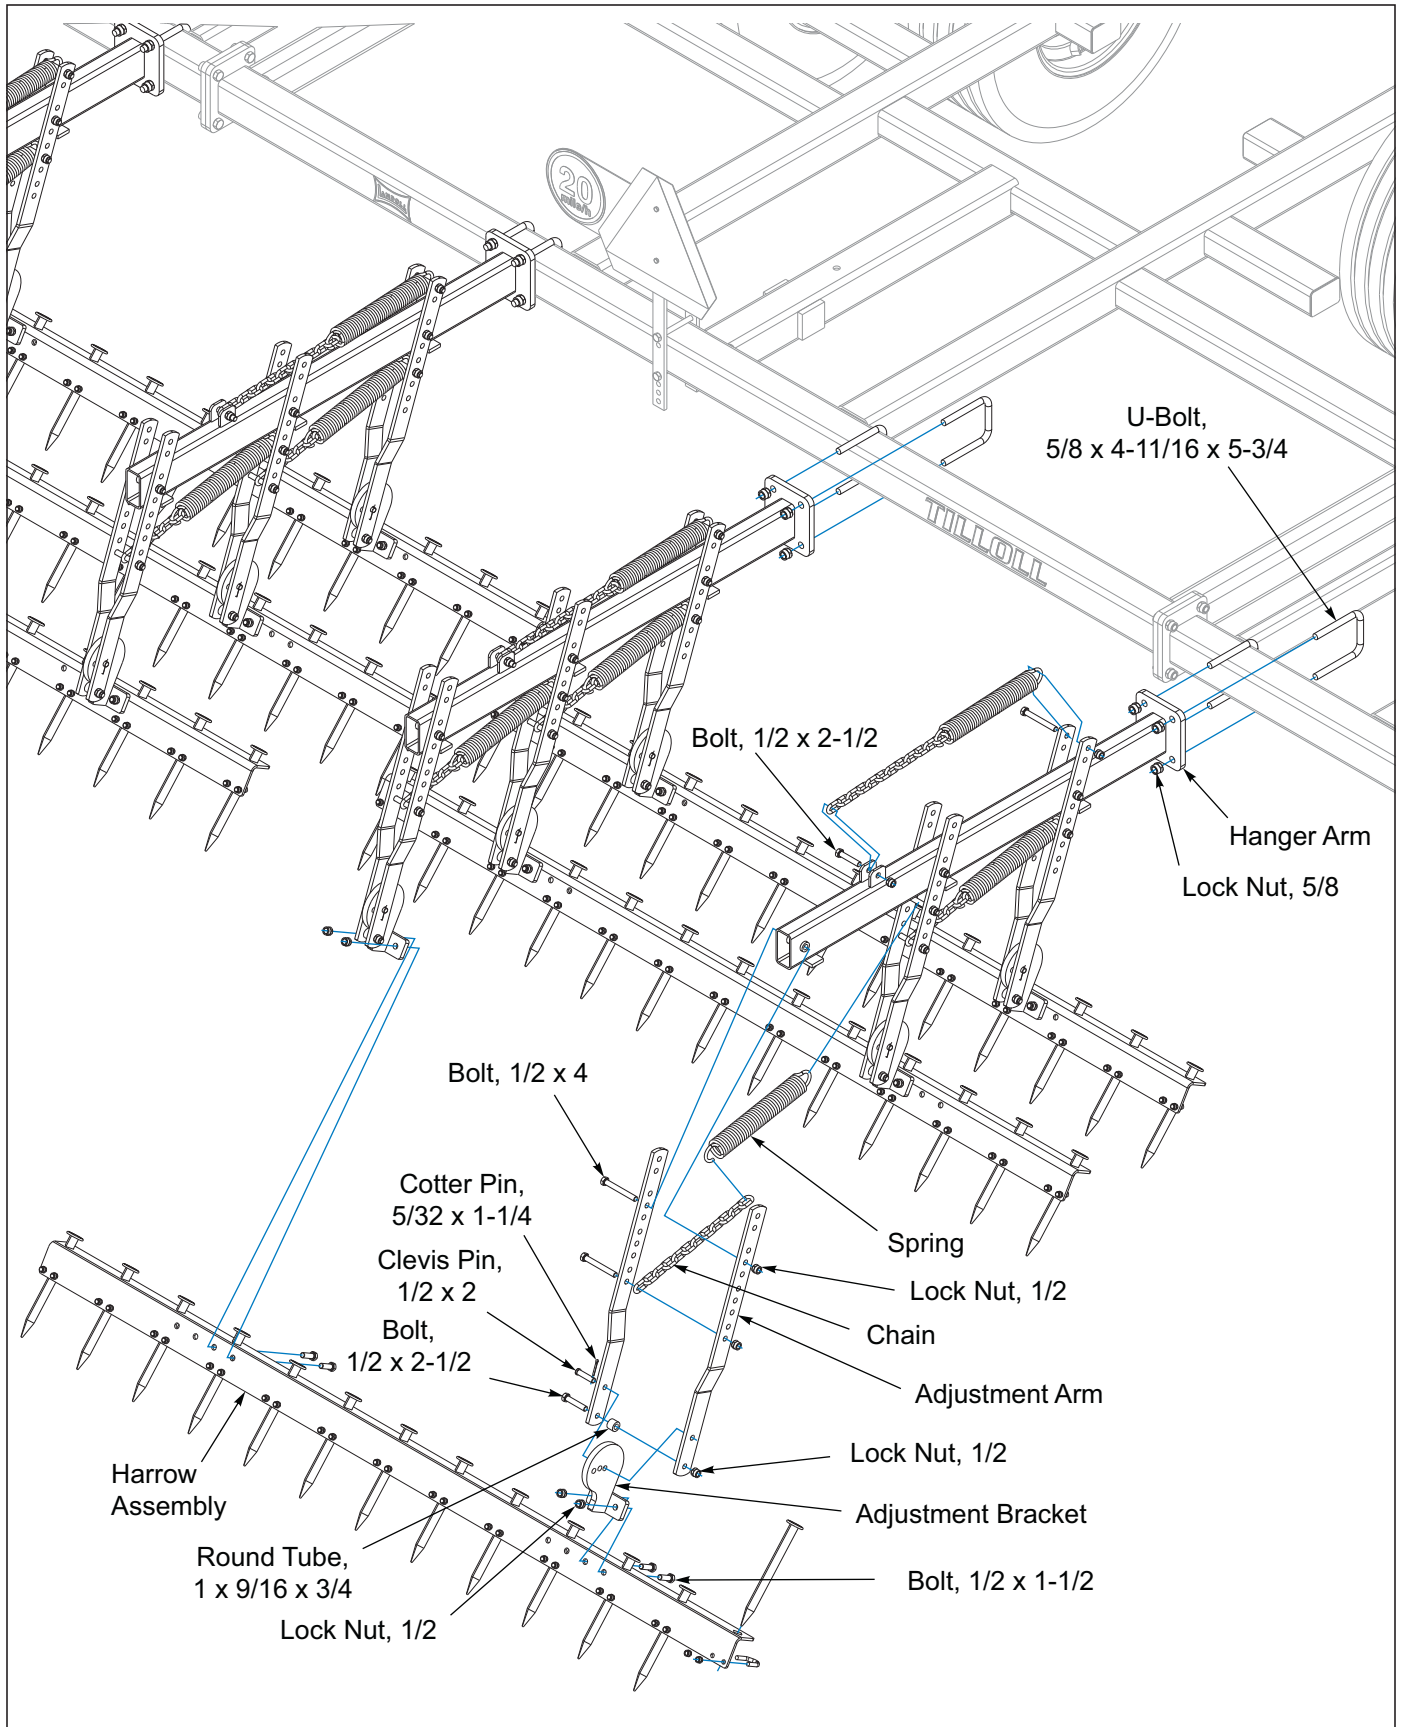

Figure 3-9: Harrow Assembly Installation
1. Install harrow hanger arms to rear of frame using u-bolts and 5/8 lock nuts *See Figures 3-9 and See Figure 2-12 for location on frame.*
4. Install harrow springs and chains as shown in *See Figure 3-9* using 1/2 x 4 bolts and hex 1/2 lock nuts. The top spring is anchored in the 1st hole from the top. Front lower *spring and rear lower* spring are anchored in the 7th hole from the top of the harrow arm. Upper chain is anchored through the enlarged link with a 1/2x 2-1/2 bolt and 1/2 lock nut and hooked on the spring in the 8th link from the bolt. Lower chains are anchored in the second from bottom harrow arm hole and hooked on the spring in the 4th link from the screw.